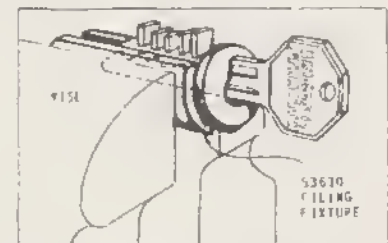

Fig. 1
2. Press cylinder into fixture, 53630, with notched side of key up and long tumblers in slot. (See Fig. 1).